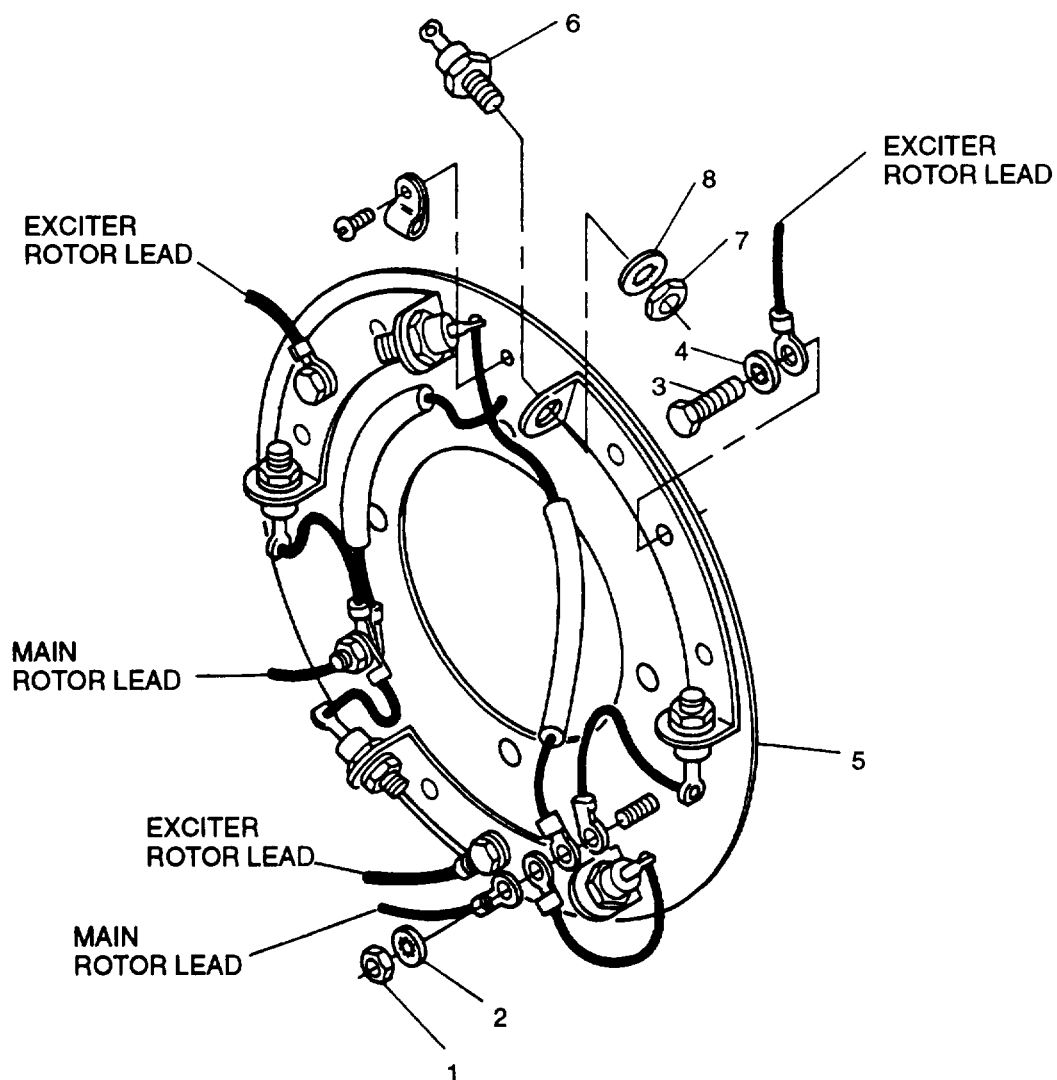
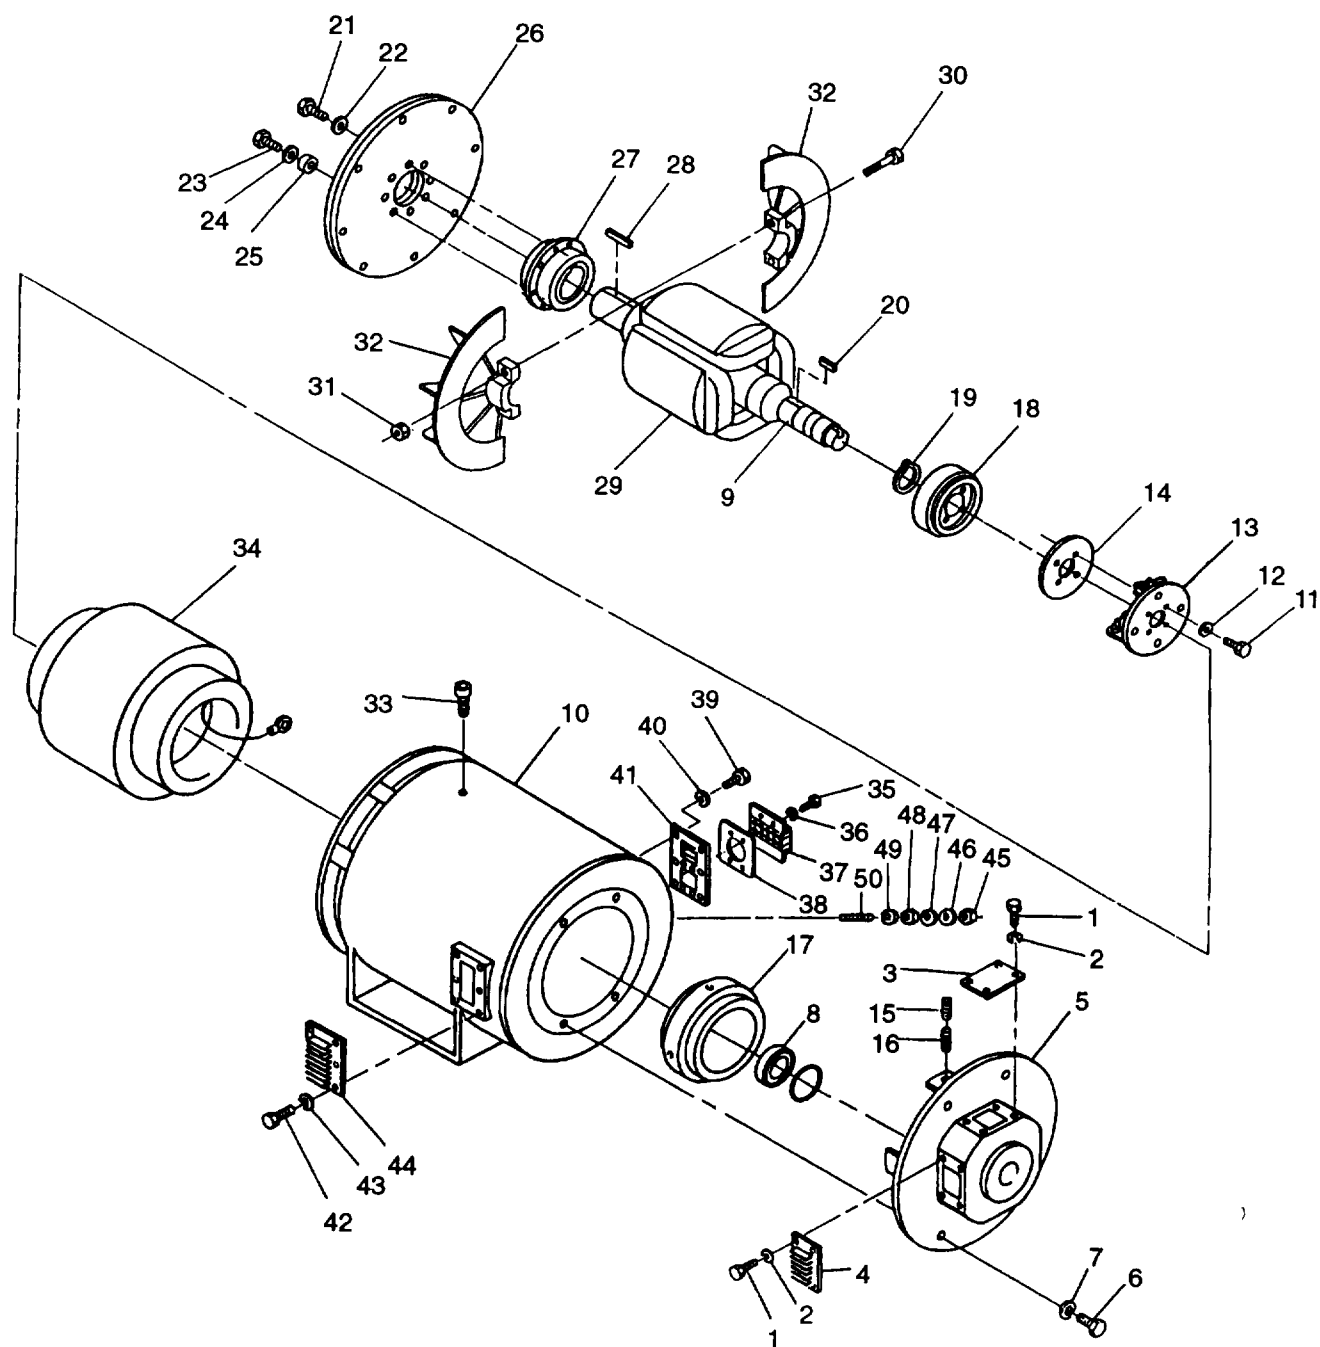

FIGURE 4-13. Rectifier Assembly (MEP-814A)
FIGURE 4-15. Generator Assembly (MEP-814A)
- e. Unsolder electrical lead from diode (6, FIGURE 4-13) being removed.
- e. Remove nuts (1, FIGURE 4-13) and lockwashers (2) from rotating rectifier terminals.
- g. Tag exciter rotor leads and remove bolts (3), washers (4), and exciter rotor leads from rectifier mounting plate assemblies.
- k. Install diode and main rotor leads to rotating rectifier terminals with lockwashers (2) and nuts (1). Remove tags.
- l. Install exciter rotor leads to rectifier mounting plate assemblies with washers (4) and bolts (3). Remove tags.
- a. Run bead of thermo compound (Item 8, Appendix C) around base of diode (6, FIGURE 4-13) prior to installing. Do not coat threads.
- d. Remove bolts (1, FIGURE 4-15), lockwashers (2), plates (3), and screens (4) from end bell (5).
- g. Loosen lead clamp assembly (37, FIGURE 4-15) clamping generator leads at side of generator housing. Ensure that wires F1 and F2 are free to slide in and out of generator housing.
- h. Remove end bell (5), with exciter stator (17) attached, by tightening bolts (6) evenly into "back-out" holes.
- a. Install bearing (8, FIGURE 4-15). Ensure that bearing is seated squarely against shaft (9) shoulder by applying pressure to inner race only.
- b. Position bearing (8) in end bell (5).
- e. Remove bolts (3, FIGURE 4-13) and lockwashers (4) securing exciter rotor leads (3 places) to rotating rectifier. Tag and remove exciter rotor leads.
- f. Remove nuts(1) and lockwashers (2) securing generator rotor leads (2 places) to rotating rectifier. Tag and remove generator rotor leads.
- g. Remove bolts(11, FIGURE 4-15), lockwashers(12) and rotating rectifier(13) from rectifier hub (14).
- a. Install rotating rectifier(13, FIGURE 4-15) on rectifier hub (14) with bolts (11) and lockwashers (12).
- b. Connect two generator rotor leads to rotating rectifier with nuts (1, FIGURE 4-13) and lockwashers (2). Remove tags.
- c. Connect three exciter rotor leads to rotating rectifier with bolts (3) and lockwashers (4).
- g. Remove setscrews(15 and 16, FIGURE 4-15) and exciter stator (17) from end bell (5).
- h. Detach "fish wires" once F1 and F2 leads clear generator housing (10).
- a. Attach "fish wires" to F1 and F2 leads of exciter stator (17, FIGURE 4-15).
- c. Position exciter stator (17) in end bell (5) and secure in place with setscrews(15) and (16).
- f. Using bearing puller, remove rectifier hub (14, FIGURE 4-15) from main rotor shaft (9).
- g. Pull two main rotor leads out of holes in exciter rotor (18).
- h. Attach hub puller to two lead holes and remove exciter rotor (18) from shaft (9).
- i. Remove key (20) and retaining ring (19) from shaft (9).
- a. Install retaining ring (19, FIGURE 4-15) and key (20) on main rotor shaft (9).
- b. Press exciter rotor(18) onto shaft (9), over key (20) and against retaining ring (19).
- c. Remove bolts (21 and 23, FIGURE 4-15), washers (22) and (24), spacers (25), and drive disc (26) from drive hub (27).